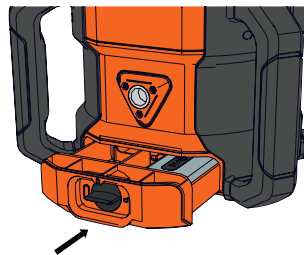

Figure 9
8. Reinsert the battery compartment into the rotary laser. (Figure 9)